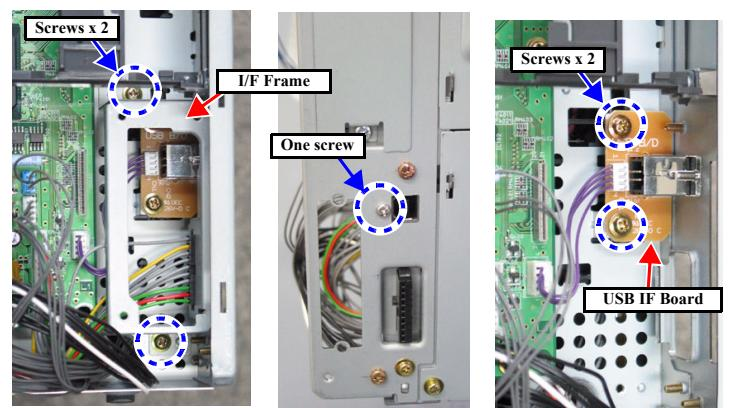

Figure 4-28. Removing the USB I/F Board
5. Remove the two screws, and remove the I/F frame. (See Figure 4-28)